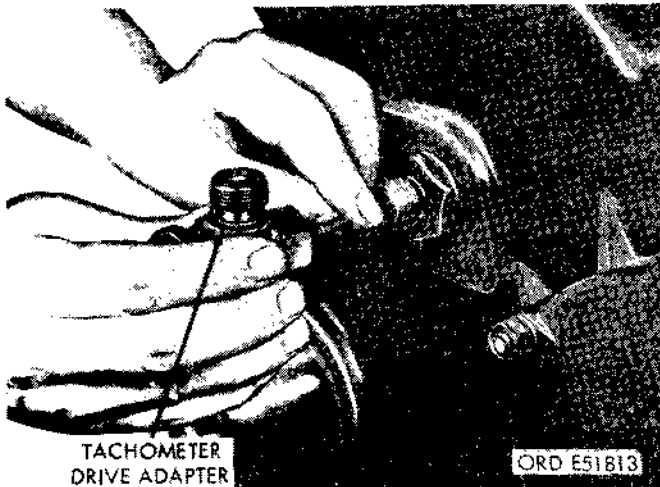

Figure 2-163. Removing tachometer drive adapter.
(1) From inside the cab, remove the two screws securing the dimmer switch (22, fig. 2-163) to the underside of the toeboard.
(2) Disconnect the three bayonet type connectors on the switch cables, and remove the switch from the vehicle.
#### a. Removal (fig. 2-163)
#### b. Installation (fig. 2-163).